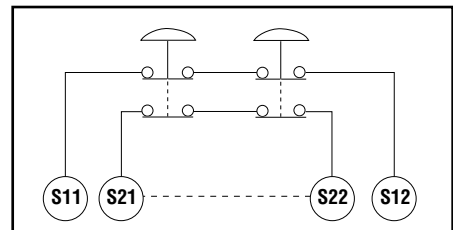
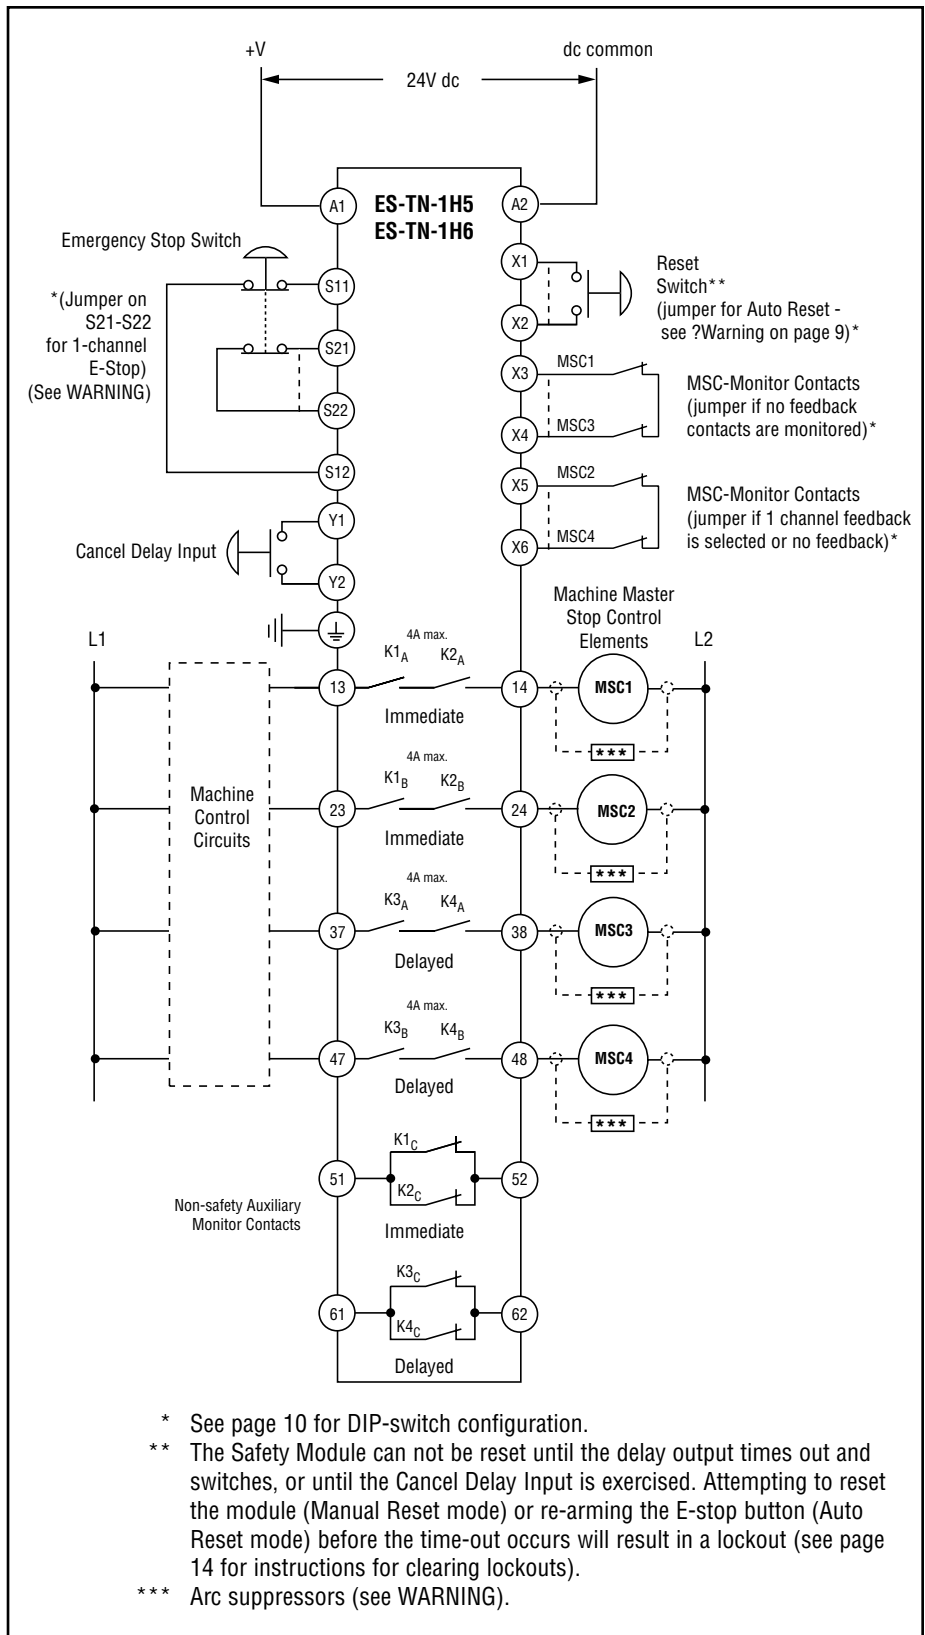
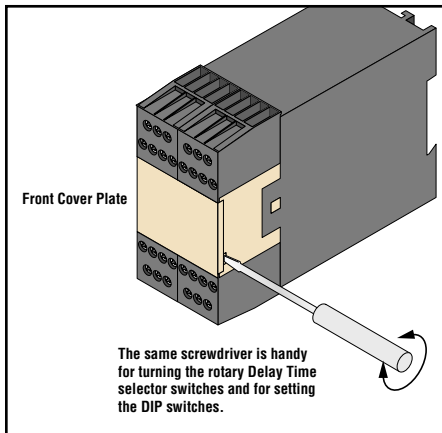
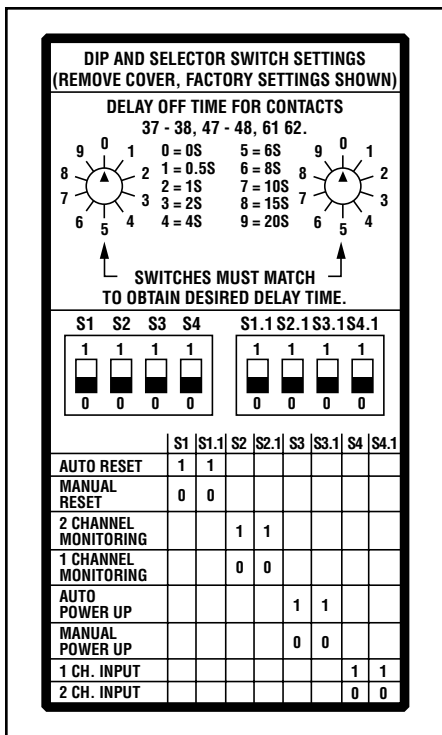

Figure 2. Series connection of multiple E-Stop switches. Jumper between S21 and S22, if 1-channel E-stop is selected.
Figure 3. E-Stop Safety Modules ES-TN-1H5 and -1H6 hookups
Figure 5. Use a screwdriver to gently pry the cover loose from the Module housing.
Figure 6. Module DIP switches and selectors, set to factory settings
The purpose of an Emergency Stop Safety Module (E-Stop Safety Module) is to increase the control reliability of an emergency stop circuit. As indicated in Figures 2 and 3, the E-Stop Safety Modules described in this document are designed to monitor a 1-channel or 2-channel E-stop switch. A 2-channel E-stop switch has two electrically isolated contacts.
The outputs of E-stop Safety Modules ES-TN-1H5 and -1H6 are two redundant normally open *immediate* safety contacts (each of which is a series of two forced-guided relay contacts, K1 and K2 in Figure 2), and two redundant normally open *delayed* contacts (also each a series of two forced-guided relay contacts, K3 and K4). The delayed contacts may be used in a functional stop Category 1 application.
As shown in Figure 2, the E-stop switch must provide one or two contacts which are closed when the switch is armed. Once activated, the E-stop switch must open all its contacts, and must be returned to the closed contact position *only* by means of a deliberate action (such as twisting, pulling, or unlocking). The switch should be a “positive-opening type,” as described by IEC947-5-1. A mechanical force applied to such a button (or switch) is transmitted directly to the contacts, forcing them open. This ensures that the switch contacts will open whenever the switch is activated. NFPA 79 section 13.2, Emergency Stop Devices, specifies the following additional switch (“stop control”) requirements:
If the Module is programmed for 1-channel E-stop (S11-S12), a jumper must be installed on the second channel (S21-S22) and configured for 1-channel input; see Figure 6.
Connect the poles of the E-stop switch as shown in Figure 3. The switch in Figure 3 is shown in the "armed" position with both contacts closed. Multiple E-stop switches connected to one E-stop Safety Module must be series connected (see Figure 2 and the warning on page 8).
The Reset Circuit switch can be any mechanical switch, such as a normally open momentary switch, or a two-position key switch. The Reset switch must be capable of reliably switching 18-30V dc at 10-25 mA. As shown in Figure 3, the Reset switch connects between terminals X1 and X2 of the Safety Module. A reset will occur after the Reset button goes from open, to closed, and back to open state.
To satisfy the requirements of Safety Category 4 of EN 954-1, the Master Stop Control elements must each offer a normally closed, forced-guided monitor contact. For **2-channel monitoring**, one normally closed monitor contact from one Master Stop Control element, controlled by one of the immediate output contacts from the E-Stop Safety Module, is wired in series to one normally closed monitor contact from one Master Stop Control element, controlled by one of the delayed output contacts from the E-Stop Safety Module, to input X3-X4. The same configuration (one immediate N.C. series connected to one delayed N.C.) is wired to X5-X6 (Figure 3). In operation, if one of the switching contacts of any Master Stop Control (MSC) element fails in the shorted condition, the associated monitor contact will remain open, making reset of the E-Stop Safety Module impossible.
There is no specific feedback input to which the immediate MSCs must be connected. However, two immediate contacts (from two MSCs) or two delayed contacts (from two MSCs) should not be connected to the same input. If **1-Channel Monitoring** is selected, input X5-X6 must be jumpered, the Module configured for 1-Channel Monitoring (see Figure 3) and all monitoring contacts must be wired in series to X3 and X4. **See 1-Channel, 2-Channel, or No External Device Monitoring on page 10 for more information.**
The hookup diagram (Figure 3) shows a generic connection of the E-Stop Safety Module's four redundant output circuits to Master Stop Control elements MSC1 through MSC4. A Master Stop Control element is defined as an electrically powered device, external to the E-Stop Safety Module, which stops the machinery being controlled by immediately removing electrical power to the machine and (when necessary) by applying braking to dangerous motion. This stopping action is accomplished by removing power to the actuator coil of any Master Stop Control Element.
The E-Stop Safety Module may be configured for Automatic Reset via two independent DIP switches, located inside the Module housing, under the front cover (see Figures 5 and 6) and by replacing the Reset switch with a jumper wire in the X1-X2 reset input circuit (see Figure 3).
If the Module is programmed for Auto Power-Up (see Figures 6 and 7), K1-K4 relays will close as soon as power is connected to A1-A2 – if the E-stop inputs S11-S12 and S21-S22 are closed, the appropriate jumpers are installed and feedback contacts X3-X4 and X5-X6 are closed, whether the Module is programmed for Auto or Manual Reset.
If 1-channel monitoring is selected (see Figure 6), one or more normally closed contacts from the MSCs must be wired to terminals X3-X4. If more than one contact is used, they must be wired in series (see Figure 3). The second channel (X5-X6) must be jumpered. The Module will reset only if both inputs are closed. After the unit is reset, the state of the X3-X4 input is irrelevant.
If 2-channel monitoring is selected (see Figure 6), the Module will check both inputs X3-X4 and X5-X6 for closed state, before a reset can occur. After the unit is reset, and during RUN mode, both inputs will be checked for matching state. In other words, if one input opens, the other input must open within 200 milliseconds.
If both pairs of output contacts (both immediate and delayed) are used, and MSCs from all four contacts are controlled (Figure 3), both an immediate MSC and a delayed MSC contact must be connected in series to each of the two feedback inputs.
The DIP switches and selector switches are located inside the Module housing, behind the front plate. Before adjusting any settings, turn OFF power to the Module. Remove the front plate by using a screwdriver in the slot on the right side and gently prying the cover away from the housing (Figure 5). Turn the rotary Delay Time selector switches to the desired position using the same small screwdriver in the slot on the arrow. Use the screwdriver blade to slide the DIP switches to their proper positions also.
The corresponding pairs of DIP switches and the two rotary Delay Time selector switches must match at all times, or a Fault condition will result. (If this occurs, turn the power OFF, adjust the pairs of switches to match, and turn the power supply back ON.) Figure 6 shows the DIP switches and Delay Time selector switches properly set for No Delay, Manual Reset, 1-Channel Monitoring, Manual Power-Up, and 2-Channel Input.
3. Remove the E-Stop Safety Module front cover, (see Figure 5).
4. Check for correct settings on the DIP switches S1-S4 and S1.1-S4.1 (see Figure 6). The related pairs of switches (S1/S1.1, S2/S2.1, S3/S3.1, and S4/S4.1) must match at all times, as must the two Delay Time selector switches (T1/T2).